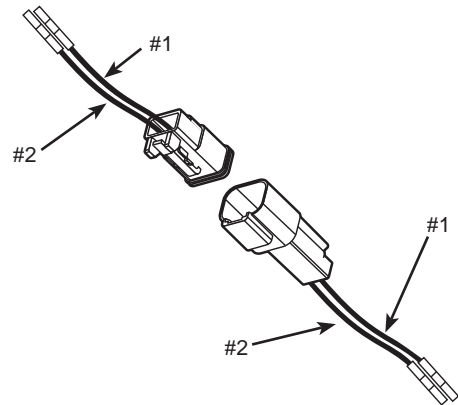

Figure 3 — A9-098 Field Coil Connector Assembly
3. Connect existing field coil leads to new field coil connector assembly (Figure 3) using splices by matching pin numbers on male and female connectors.